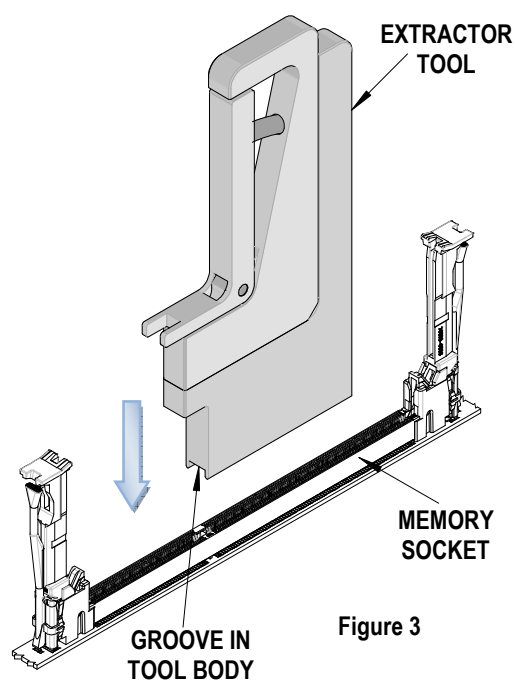

Figure 3
2. Align the groove in the bottom of the tool body with the memory socket and place the tool on the socket, in the middle of the socket's length. See Figure 3.